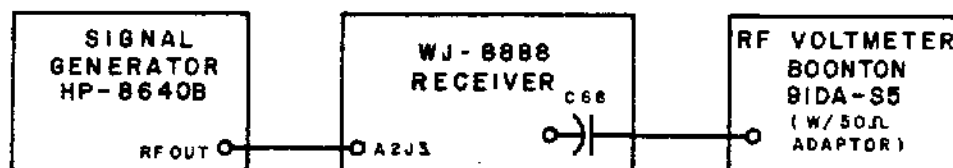
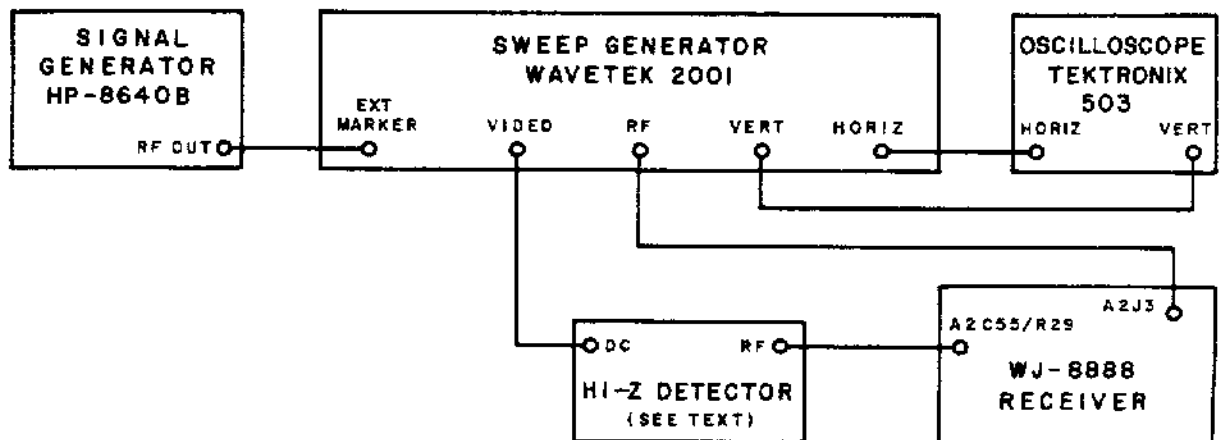

Figure 5-13. Test Setup, Second LO Alignment
Figure 5-14. Test Setup, Second LO Alignment
- (1) Disconnect the lead from A2C68 to A2U2 pin 1.
- (2) Connect the equipment as shown in Figure 5-13.
- (3) Set the signal generator for a -10 dBm 72.105 MHz (± 2 kHz) unmodulated RF output.
- (4) Adjust L6, L7, L24, and L26 for a peak reading on the RF voltmeter.
- (5) Reconfigure the equipment as shown in Figure 5-14, leaving the RF voltmeter connected to C68. The RF end of the high impedance detector is placed at the junction of A2C55 and A2R29. Use the high frequency high impedance detector shown in Figure 5-2.
- (6) Set the sweep generator for a -10 dBm 72.105 MHz (± 2 kHz) output and adjust the sweep generator and oscilloscope controls for an undistorted response.
- (7) Tune the marker signal generator to 72.105 MHz (± 2 kHz).
- (8) Readjust L6 and L7 for a maximum amplitude symmetrical response about the 72.105 MHz marker.
- (9) Reconfigure the equipment as shown in Figure 5-13.